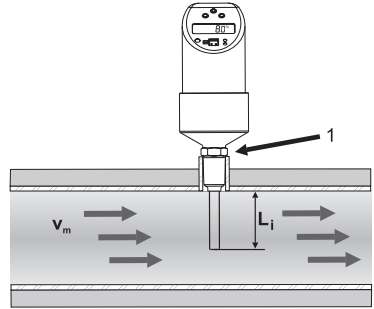

Figure 4 Installation conditions
Do not turn the device into the process connection thread at the housing. Always install the device at the spanner flats (Figure 4, item 1). Use a suitable open-ended wrench for this task (see table of page 5).
Installation from above (see Figure 4) only if the pipe is completely filled with medium during operation.